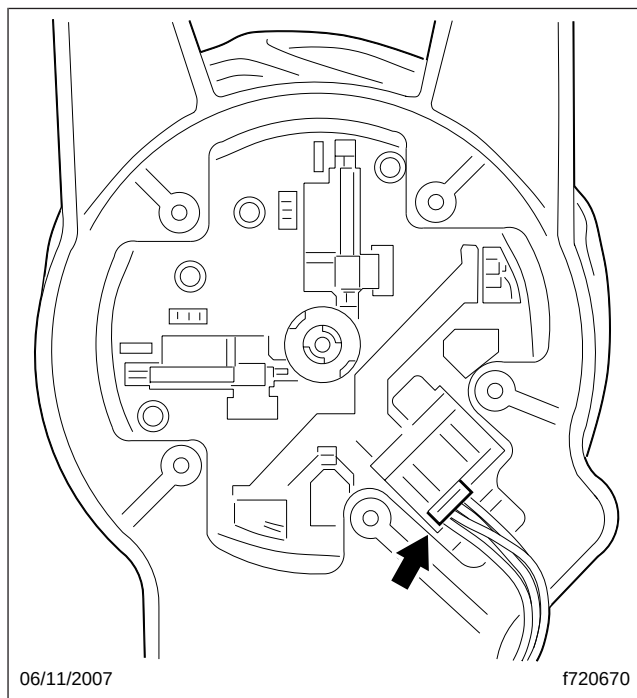

Fig. 1, Actuator Wiring Connector
4. Disconnect the mirror wiring harness from the actuator; see Fig. 1.